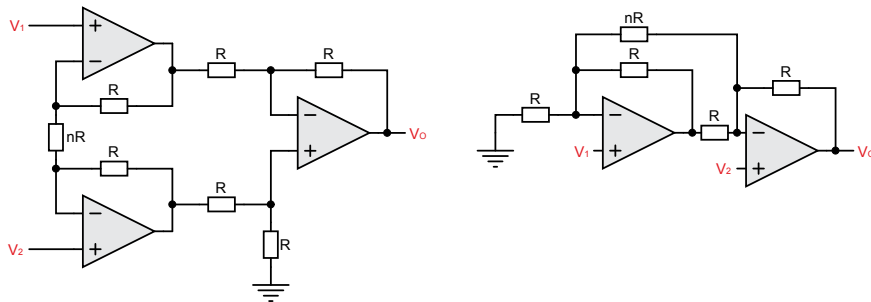

Figure 1.9: Instrumentation Amplifiers with (a) three and (b) two operational amplifiers
- 2 Design an instrumentation amplifier using three OP-Amps with a controllable differential-mode gain of 3. Refer to Figure 1.9(a) for the circuit diagram. Assume that the resistors have 1% tolerance and determine the Common Mode Rejection Ratio (CMRR) of the setup and estimate its bandwidth. We invite the reader to view the recorded lecture [18].
- 3 Design an instrumentation amplifier using two OP-Amps with a controllable differential-mode gain of 5. Refer to Figure 1.9 for the circuit diagrams of the instrumentation amplifiers and determine the values of the resistors. Assume that the resistors have 1% tolerance and determine the CMRR of the setup and estimate its bandwidth.